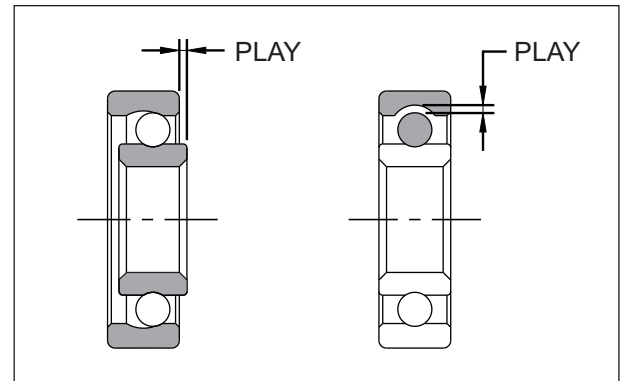

Fig. 6.6
- Inspect the wheel bearings inner race for play by hand while fixing it in the hub complete front wheel. (Fig. 6.6)